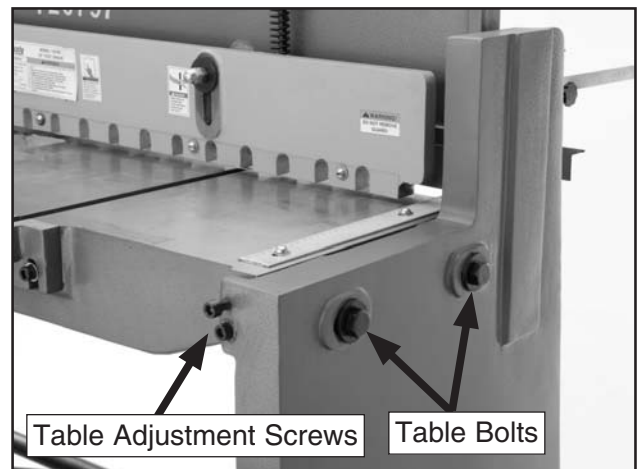

Figure 11. Adjustment screws.
1. Loosen, but do not remove the two table bolts and table adjustment screws on both sides of the foot shear (see **Figure 11**).